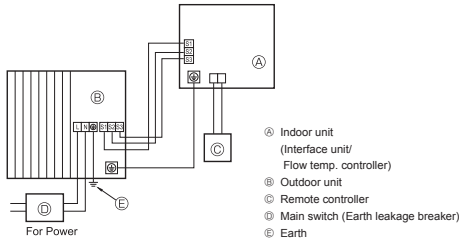
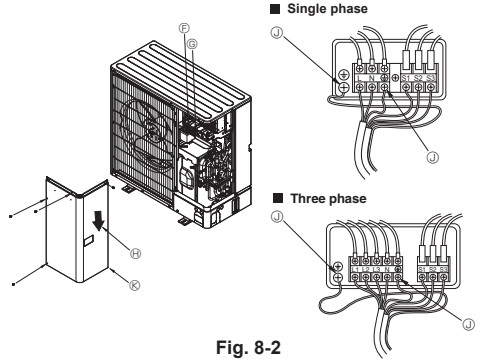

Fig. 8-1
Fig. 8-2
8.1. Outdoor unit (Fig. 8-1, Fig. 8-2)
- ① Remove the service panel.
- ② Wire the cables referring to the Fig. 8-1 and the Fig. 8-2.